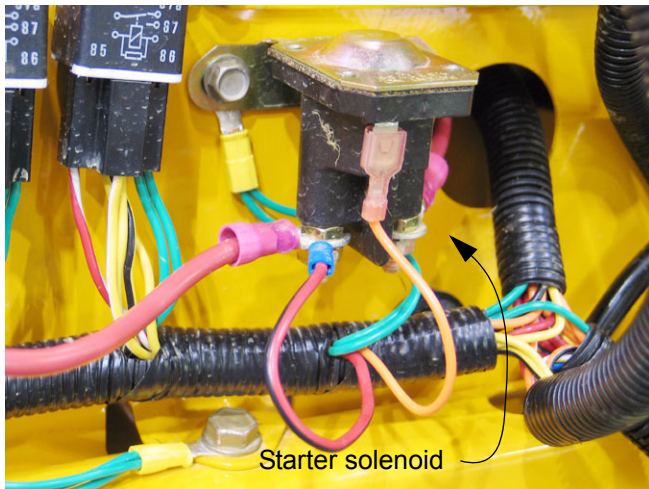

Figure 15.8
15.8. The STARTER SOLENOID is located under the right console just to the right of the relays. See Figure 15.8.